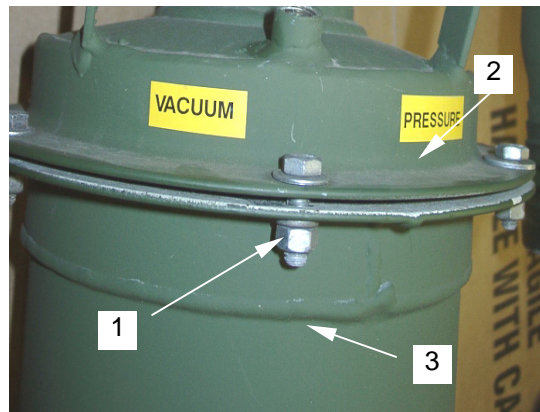

Figure 7. Installing Lid to Moisture Trap Body
15. Install six hex bolts, nuts, and flat washers (**figure 7, item 1**) holding the lid (**figure 7, item 2**) to the moisture trap body (**figure 7, item 3**) and tighten in a star pattern. Orient the gage to line up with the sight glass.